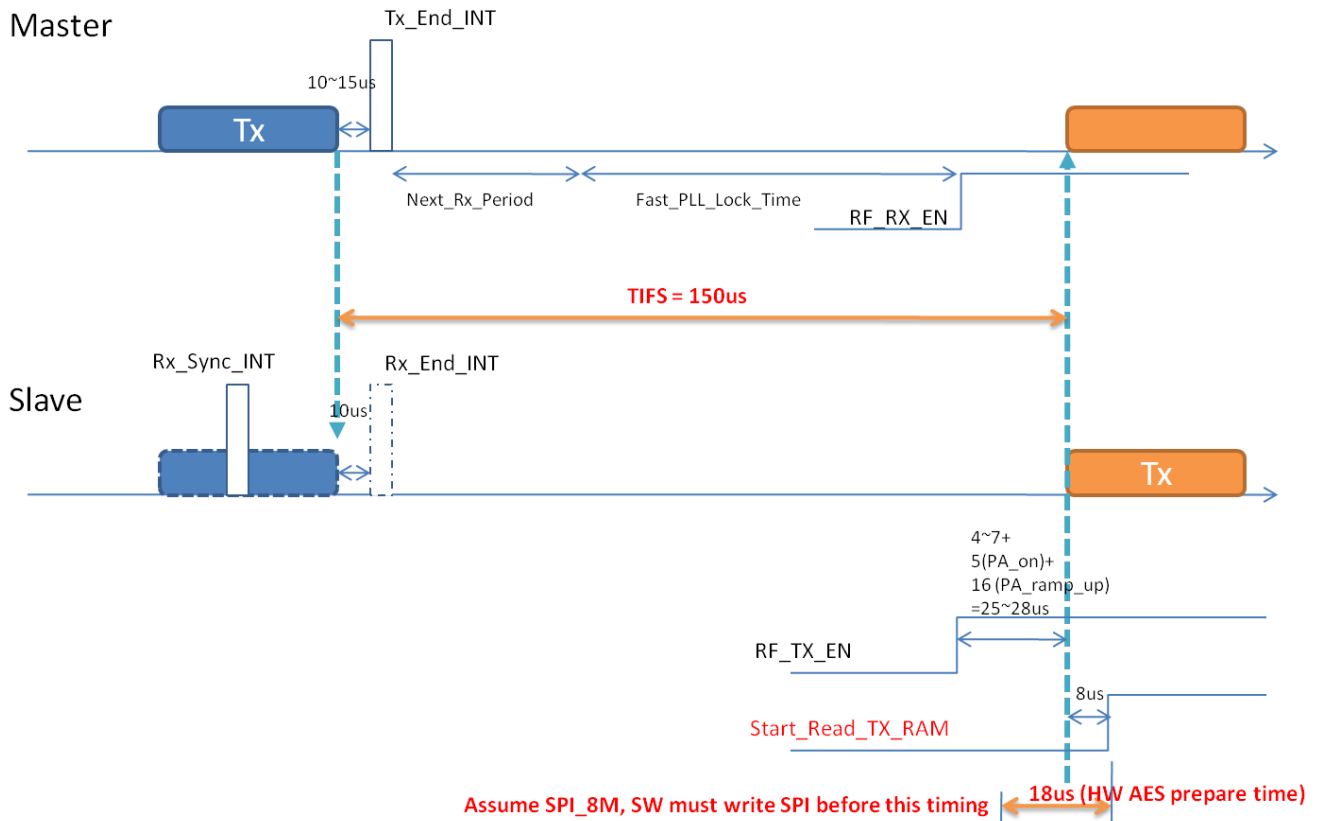

Figure 7. Rx→TIFS→Tx Processing Time
In the case of automatic Rx→TIFS→Tx switching: steps (1) ~ (4) must be done before **Start\_Read\_TX\_RAM** is pulled high (see Figure 7, previous page).